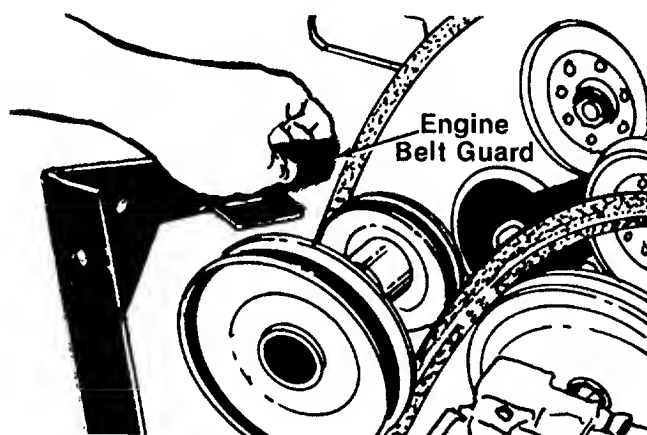

FIGURE 33.
9. Remove two hex bolts, nuts and lock washers from the engine pulley belt guard at rider frame to allow the engine pulley belt guard to drop down out of the way. See figure 33.